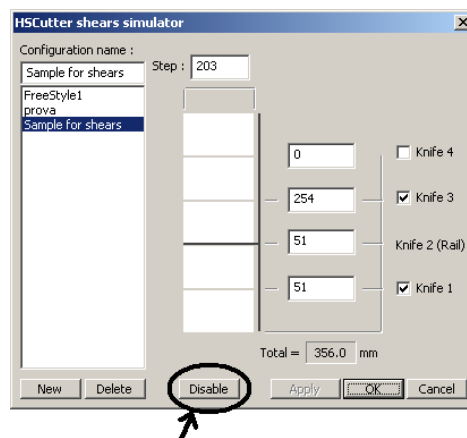

Fig.125 - Disable button
- 3) Select the row of the new folder. Double-click on the **Shear** column. The **HSCutter Shear simulator** window appears, as in fig. 125.
To disable the shears configuration of a folder, double-click on the **Shears** column in the **Autoprint folder list** window. The **HSCutter shear simulator** window now features the **Disable** button, as shown in fig. 125. Press it and give **OK** to disable the current shears configuration.